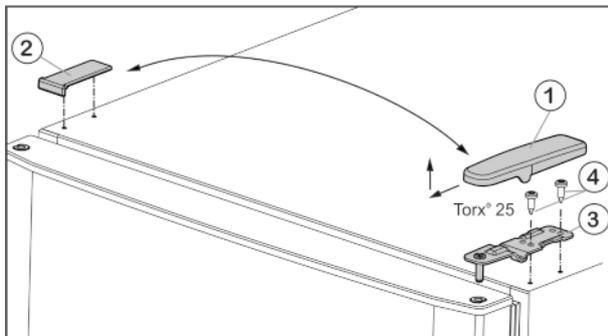
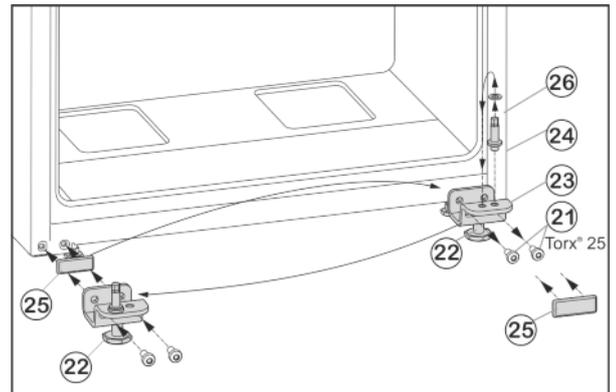

Fig. 5
Fig. 7
- ▶ Pull off the cover Fig. 5 (1) forwards and upwards.
- ▶ Lift off the cover Fig. 5 (2).
- ▶ Unscrew the upper turn hinge Fig. 5 (3) (2x Torx® 25) Fig. 5 (4) and lift it off.
- ▶ Unscrew fastening screws Fig. 7 (21).
- ▶ Remove the lower bearing block Fig. 7 (23), complete with bearing bolt Fig. 7 (24), washer Fig. 7 (26) and adjustable foot Fig. 7 (22).
- ▶ Unscrew the bearing bolt Fig. 7 (24), complete with washer Fig. 7 (26), re-locate it into the mounting hole on the opposite side of the bearing block and tighten again.
- ▶ Carefully remove the cover plate Fig. 7 (25) and re-locate it to the other side.
- ▶ Fasten the lower bearing block Fig. 7 (23), complete with bearing bolt Fig. 7 (24), washer Fig. 7 (26) and adjustable foot Fig. 7 (22) to the new hinge side, with the help of a cordless screwdriver if necessary, and **tighten (with 4 Nm)** once again.
- ▶ Lower the bottom door onto the bearing bolt Fig. 7 (24).
- ▶ Insert the centre bearing block (13) turned through 180° into the lower door and fasten firmly (**with 4 Nm**) to the new hinge side with the fastening screws (11) (2 x Torx® 25).
- ▶ Refit plastic washer (10).
- ▶ Set the upper door down on the centre bearing block (13).
- ▶ Insert the upper turn hinge Fig. 5 (3) in the door on the new hinge side.
- ▶ Screw in the upper bearing block **tightly (with 4 Nm)** (2 x Torx® 25) Fig. 5 (4). Use a cordless screwdriver if necessary.
- ▶ Fit the cover Fig. 5 (1) on the opposite side by sliding it rearwards and latching it into place.
- ▶ Press the cover Fig. 5 (2) on the opposite side down into place until it latches.
- ▶ Unscrew the adjustable foot Fig. 7 (22) on the lower bearing block Fig. 7 (23) until it reaches the floor.